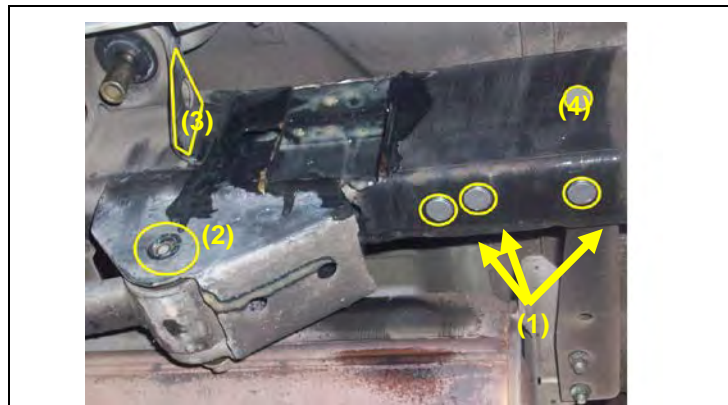

Figure 23 - Masking Locations for Bracket Type "A"
12. Using the $\frac{3}{4}$ " round labels provided in the service kit, mask off the Pop-nuts. Use tape to mask off other related bracket mounting locations highlighted in Figure 23. This is required to inhibit Noxudol chemicals from coating the bracket mounting surfaces.